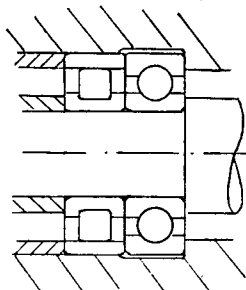

Fig. 5B
0.000 in. fit when the bearing is required for these duties, this gives an angle of contact of approximately 15 deg. If the unit is required to be free of all journal loading, then the housing bore above it must be relieved and a further bearing (usually of the roller journal type) introduced to accommodate this. A typical arrangement illustrating these points is shown at Fig. 5B. The normal ball journal described, suffers from one disadvantage, and this is, that owing to its construction, i.e. full depth of track on both inner and outer members, only a certain